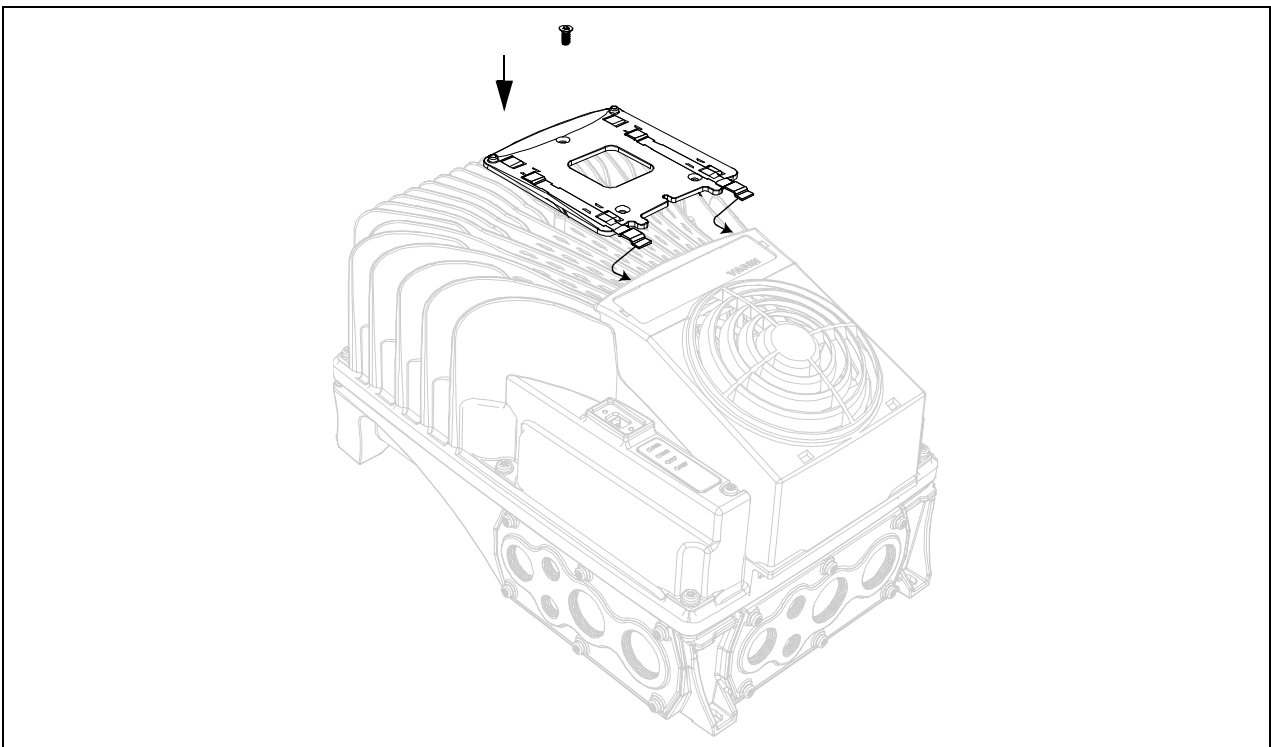

Figure 52. Installation of the keypad holder on the powerhead
- Install the keypad holder with a screw as shown in the Figure 52. The metal sheets of the keypad holder have to be mounted under the fan holder as shown in the following figures.